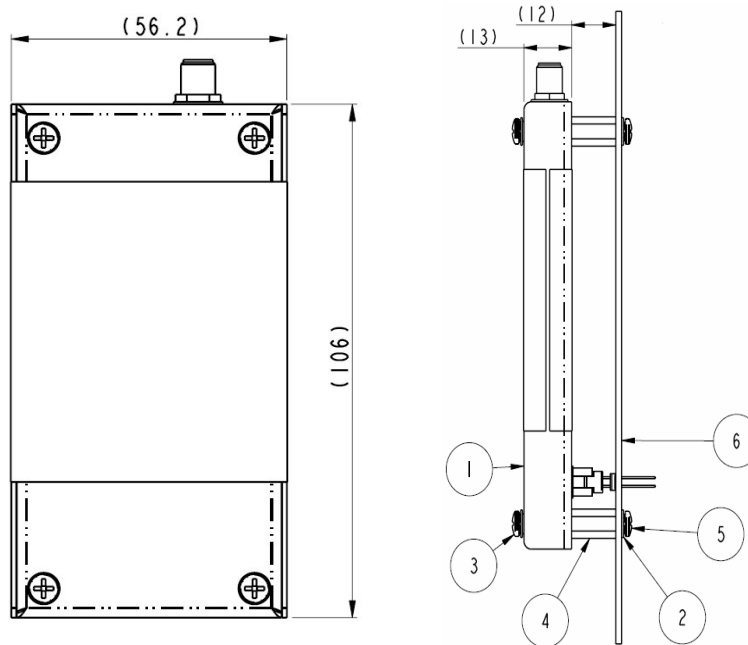

Figure 4: Assembly Item Number Identification. Item Numbers in Figure 4 are described in Table 3. Not to scale. Dimensions in millimeters.
Table 3: Item Number Description for Figure 4
1. Item 1 is a generic, developer provided PCB design and shown for illustrative purposes. This item is the same as Item 6 in Figure 4.